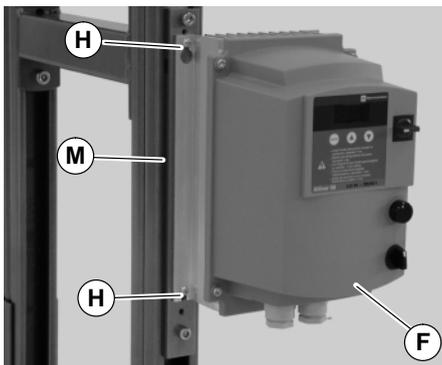

Figure 15
3. Attach controller (F of Figure 15) to mounting bar (M) with screws (H).